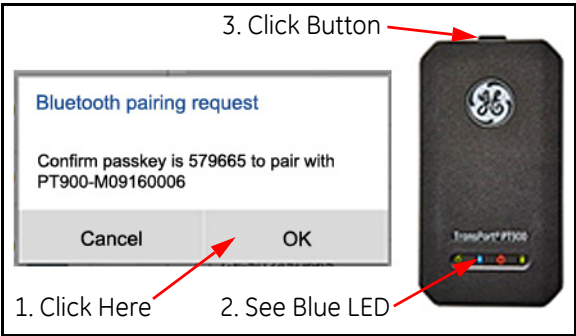

Figure 67: Confirm the Pairing
9. During the pairing process, PT900 security features require the user to confirm the pairing (see *Figure 67* below). When the *Bluetooth pairing request* appears on the tablet (ignore the random passkey), click **OK** to continue. Then, confirm that the blue LED on the transmitter is flashing and click the transmitter power button.